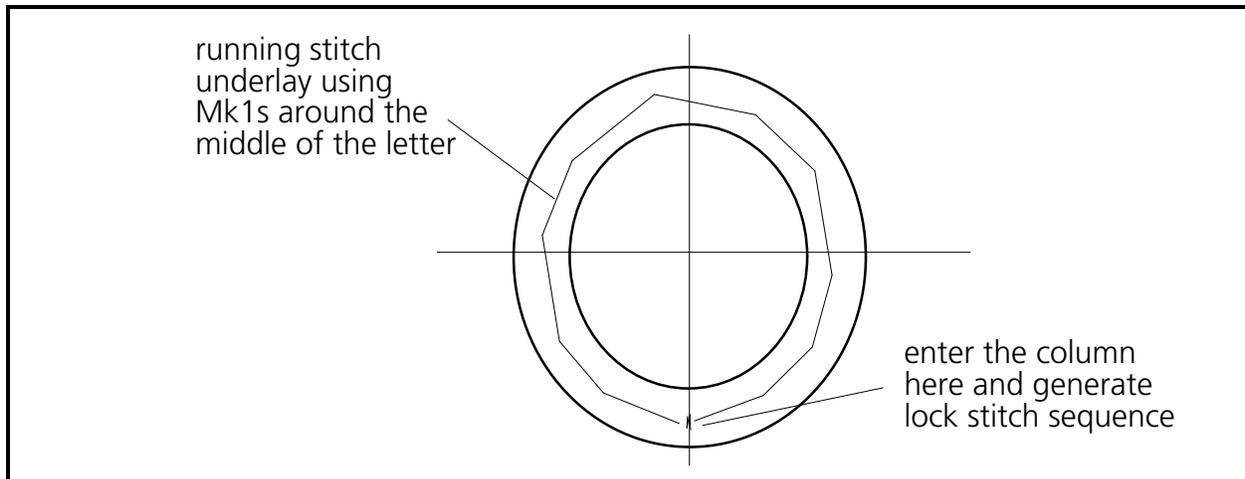

Figure 6-45
1. Perform the needle up, Mk1, normal stitch, Mk1 sequence to move to the bottom middle area of the letter **o** (see Figure 6-45).
2. Generate lock stitches in the letter **o** in a vertical direction as shown in Figure 6-45.
3. Using Mk1s, generate a running stitch underlay completely around the letter (see Figure 6-45). Finish with a Mk1 near your lock stitches.